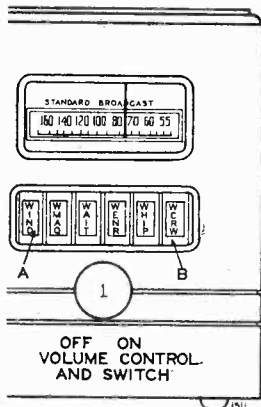

FIG. 2
1. Make a list of six stations you tune in regularly. There are six push buttons on the front of the radio by means of which six stations may be tuned automatically. (See "B," Fig. 2.)
On the front of each automatic tuner button an opening is provided for inserting the call letter tabs. (See "A" Fig. 2.)
6. Now rotate the tuning knob to the right (clockwise) as far as it will turn, and with a coin (quarter), tighten the special locking screw ("C") in the center of the tuning knob, (See Fig. 2.)